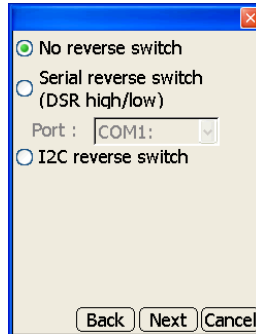

Figure 2-51. Machine Switches Dialog Box
7. For machine equipment files, make sure “No reverse switch” is selected and press **Next** to continue (Figure 2-51).